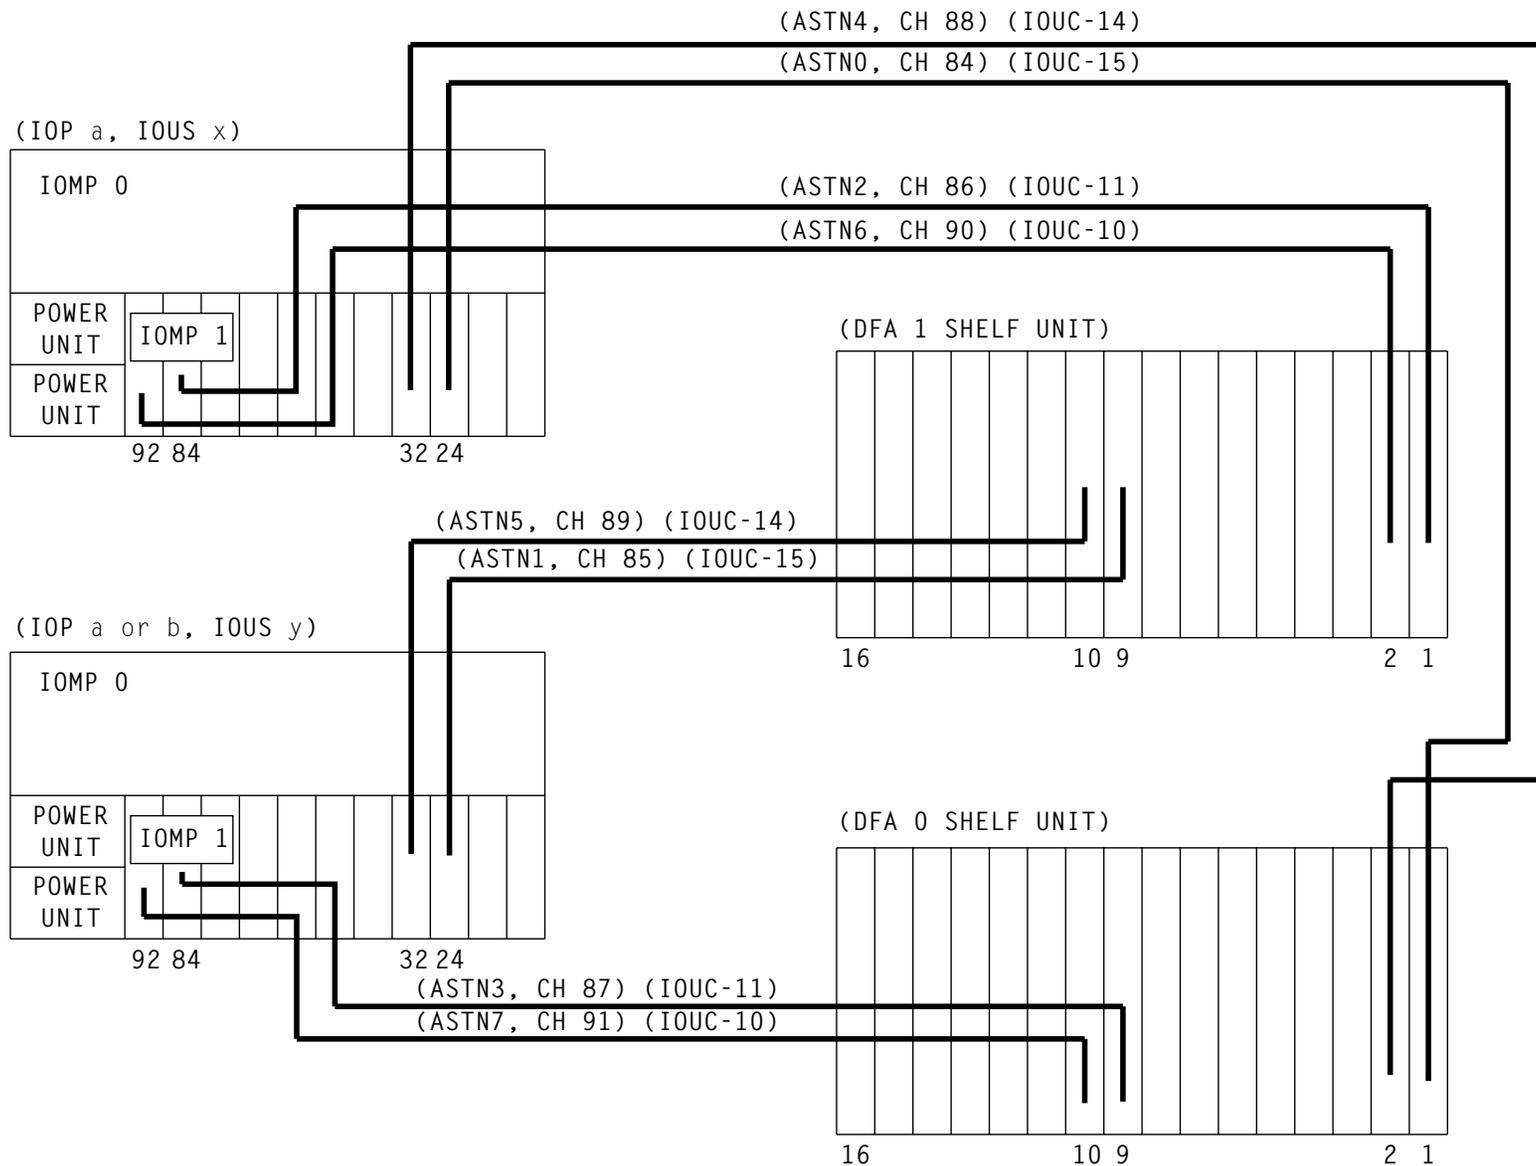

FIG. 1 - ASTN Channel Connections Assignments From IOMP To DFA (Rear View)
[1] See TABLES A and B and Figure 1. Label each DSU and **TN82B** circuit pack with the appropriate F-link name, ASTN link number, ASTN channel (CH) number, and the IOUS and IOUC the DSU(s) are connected to